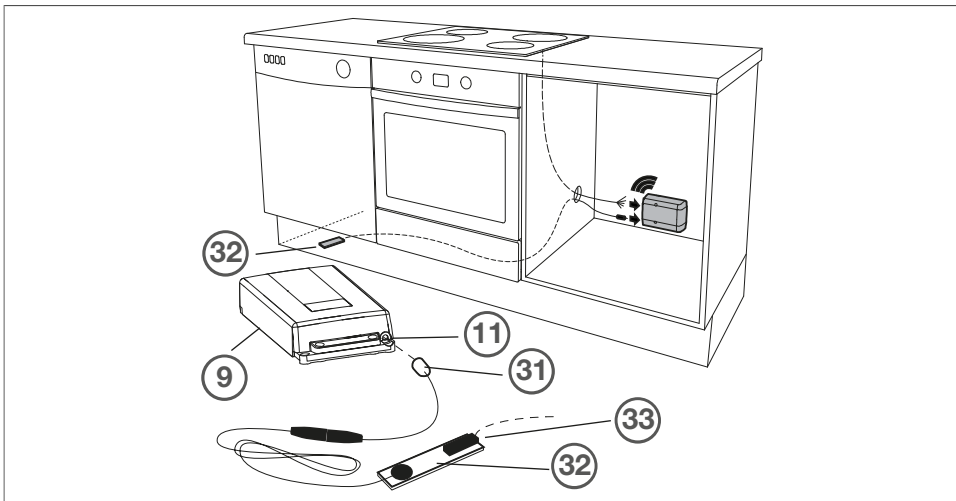

Fig. 19: Mounting of water leakage sensor
- 1 Insert the plug of the leakage sensor (31) into the jack on the power control unit (11).
- 2 Place the water leakage sensor (32) under the dishwasher (Fig. 19).
- 3 Optional: Insert additional water leakage sensor into the plug (33) of the front sensor (31).